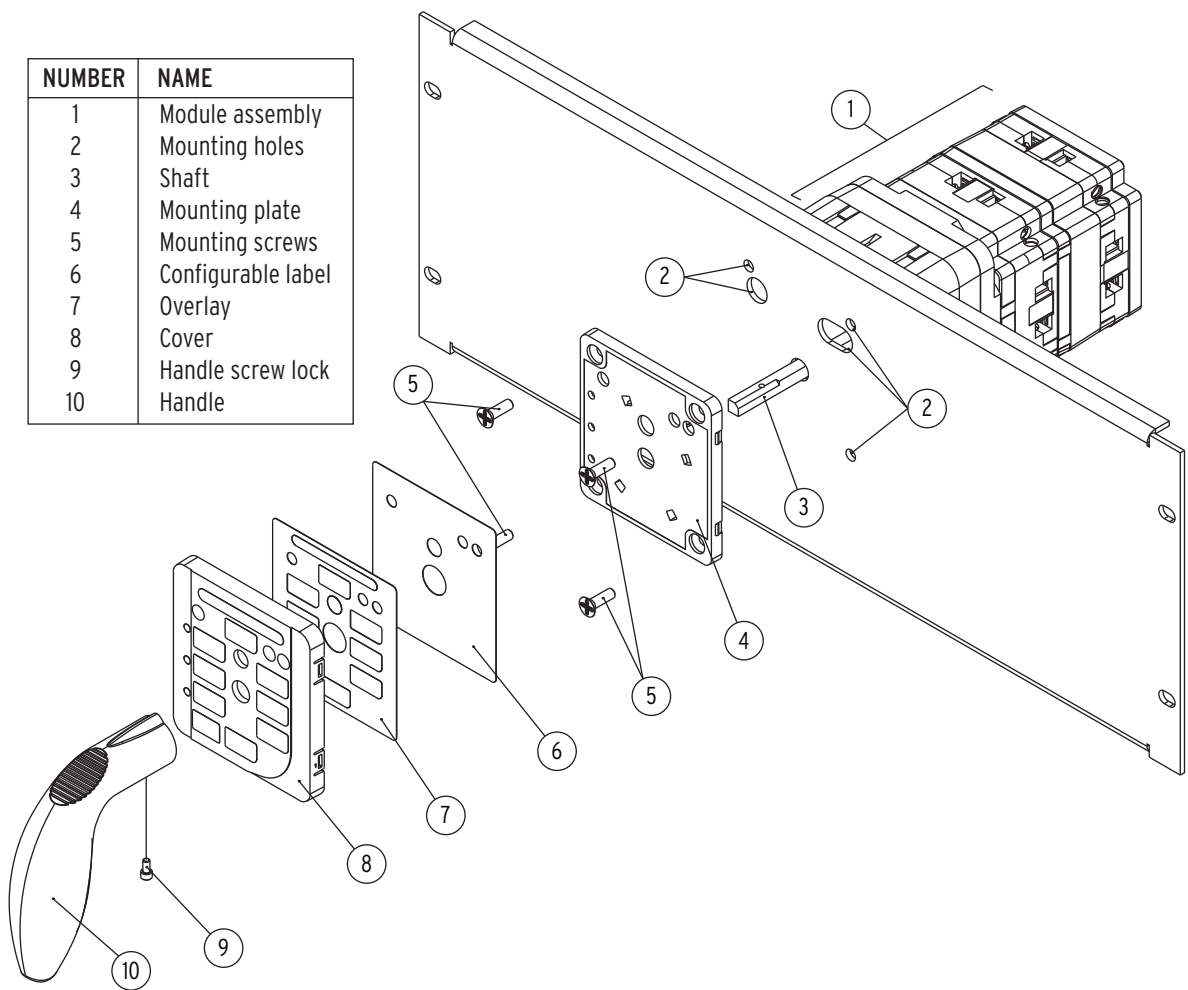

Figure 26 SEL-RS Rotary Switch Family Mounting Diagram
- Step 2. Use *Figure 25* as a template to drill the mounting holes (2 in *Figure 26*) on the panel plate.
- Step 3. Remove the four mounting screws (5) from the front plate (4) and the spacers (not shown).